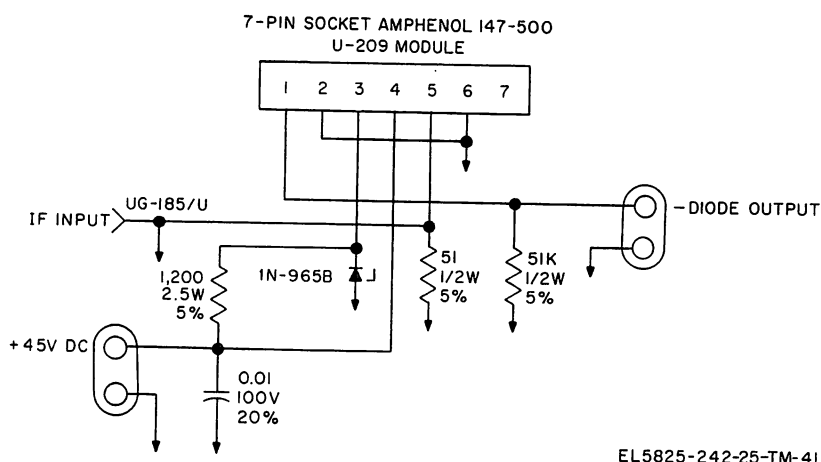
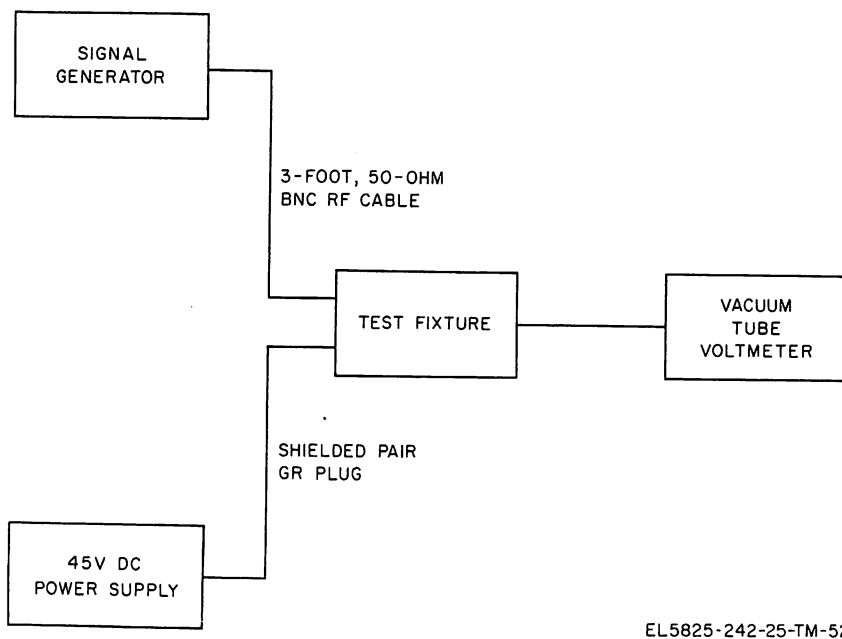

Figure 19.1. Vhf receiver R-744B, if. diode module, test fixture schematic diagram.
Figure 19.2. Vhf receiver, R-744B, if. diode module, test connection diagram.
Page 34. Paragraph 36.1 and figures 19.1 and 19.2
(fig. 19.1)
c. *Vhf Receiver R-744B If. Diode Module Test Setup.* Fabricate test fixture (fig. 19.1) and connect diode module (fig. 19.2). Set signal generator, connected to if. input cable, for a frequency of 4.3 MHz, with modulation selector set to CW and
- (1) Signal Generator, RF AN/URM-25, or equivalent.
- (2) 45-Volt DC Power Supply, Power Design 3650S, or equivalent.
- (3) Electronic Voltmeter ME-26A/U, or equivalent.
- (4) Test Fixture TF-830/13, or equivalent (fig. 19.1).
- (1) Be sure all power is off.
- (2) Fabricate test fixture in accordance with test fixture schematic diagram (fig. 19.1) and then make test connections per test fixture connection diagram (fig. 19.2).
- (3) Turn on power supply and adjust for +45 volts dc ± 1 . Then, turn off power supply.
- (4) Insert module into test fixture socket; be sure that module can be fully down and making contact with header. Again turn on power supply and check to see that power supply voltage is still +45 volts dc ± 1 .
(5) Set signal generator to 4.3 MHz, modulation selector to CW, and output to 0.005 volt rms.
(6) Connect vtvm to diode output and tune signal generator for maximum dc voltage output. Observe frequency for maximum output, using signal generator vernier (one division equals 4kHz) and built-in crystal calibrator to set 4.3-MHz point (4.3 MHz $\pm$ 30 kHz).
(7) Adjust potentiometer R23 for diode output of -2.5 volts dc. If unable to make this adjustment, enter minimum or maximum voltage obtainable to facilitate troubleshooting.
(8) Turn off all power, disconnect test equipment, and remove module.